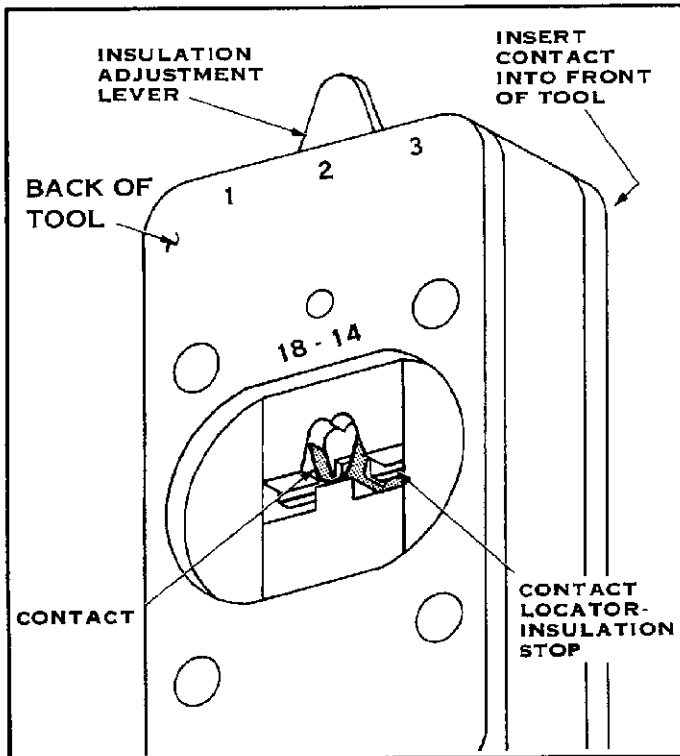

FIGURE I-3
1. Hold the tool so the BACK of it is facing you. See Figure I-3.
3. Looking straight into the crimping dies from the Back of the tool, insert a contact (Insulation Barrel first) into the FRONT of the tool. See Figure I-3.